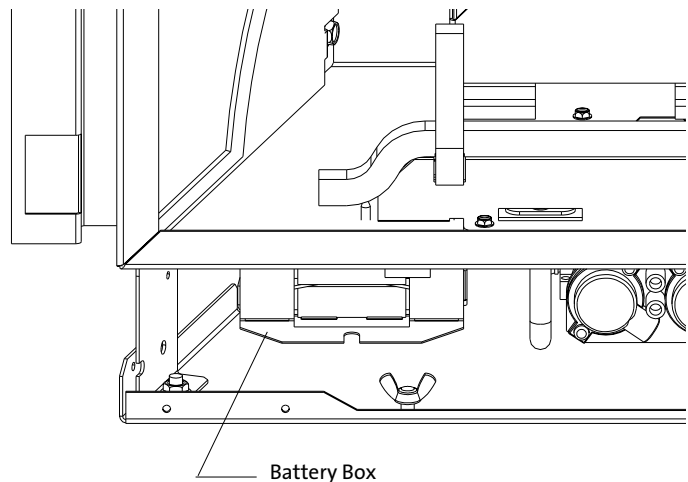

Figure 13. Push the battery box out of the way to access the glass frame latch.
2. Remove the glass frame. Loosen the battery box wing nut and push the box back out of the way. You can then use the latch release tool, provided with the insert, to release the two latches located under the firebox. Engage the tool with the latch and pull it forward and down to release. See fig. 13.